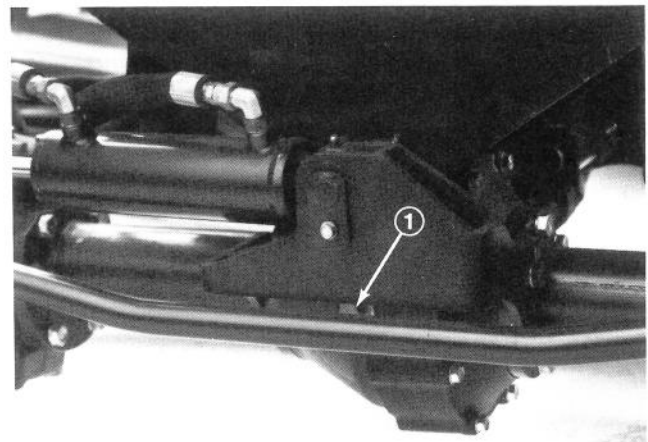

Figure 25
1. Check Plugs (2) 2. Mounting Bolts
3. Remove plug in center of axle and check level. If level is low, add enough lubricant to bring the level up to the bottom of the hole (Fig. 25).